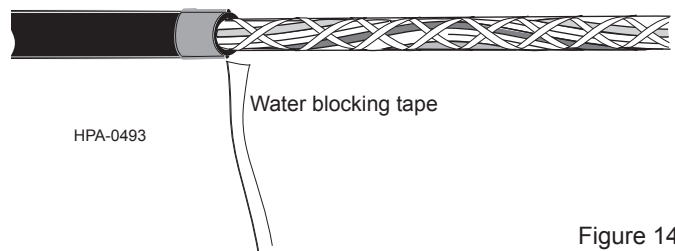

Figure 14
4.10 Separate the water blocking tape from the cable core to expose the buffer tubes (Figure 14). Use scissors to cut the water blocking tape flush with the end of the cable sheath.